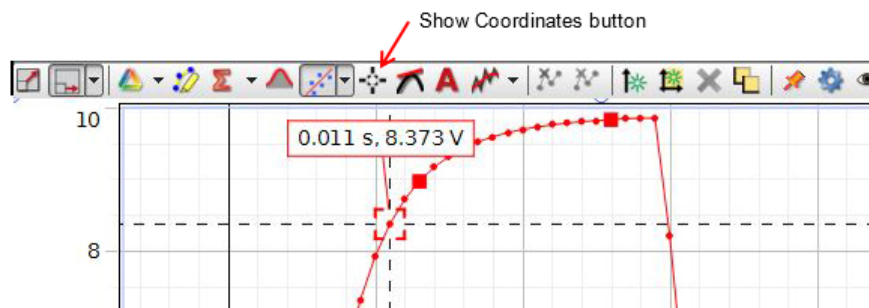

Figure 10: Show Coordinates
- 10 Select the **Show Coordinates** button from the buttons above the graph. See Fig. 10.